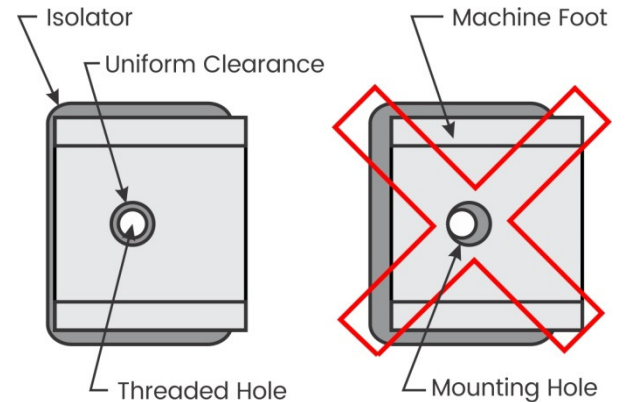

Figure 1
3. Position each isolator under the machine foot so there is uniform clearance between the threaded hole in the isolator and the inside surface of the mounting hole. (see Figure 1) Any contact between the leveling screw and the inside surface of the mounting hole as it is turned into the isolator housing can cause the leveling screw to jam. Note: The larger model BFM series are shipped with the preinstalled leveling screws. The isolator should be installed as a unit to the bottom of the machine foot. A two-piece sleeve is provided to protect the leveling screw as it is inserted through the mounting hole. Once installed, remove the top, longer sleeve and install the locknuts tightly against the machine foot. Carefully lower the machine. The short sleeve should remain installed to protect the leveling screw from contact with the mounting hole. If your isolators have preinstalled leveling screws, proceed to Step 7.